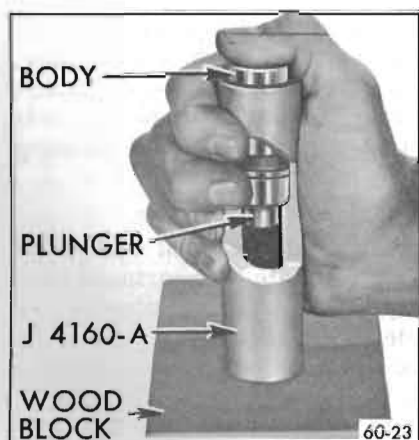

Figure 60-23—Removing Plunger with J-4160-A
6. If a plunger sticks in lifter body, place lifter in large end of Plunger Remover J-4160-A, with plunger inward. While holding lifter with thumb, rap the open end of remover against a block of wood with just enough force to jar the plunger from body. See Figure 60-23.